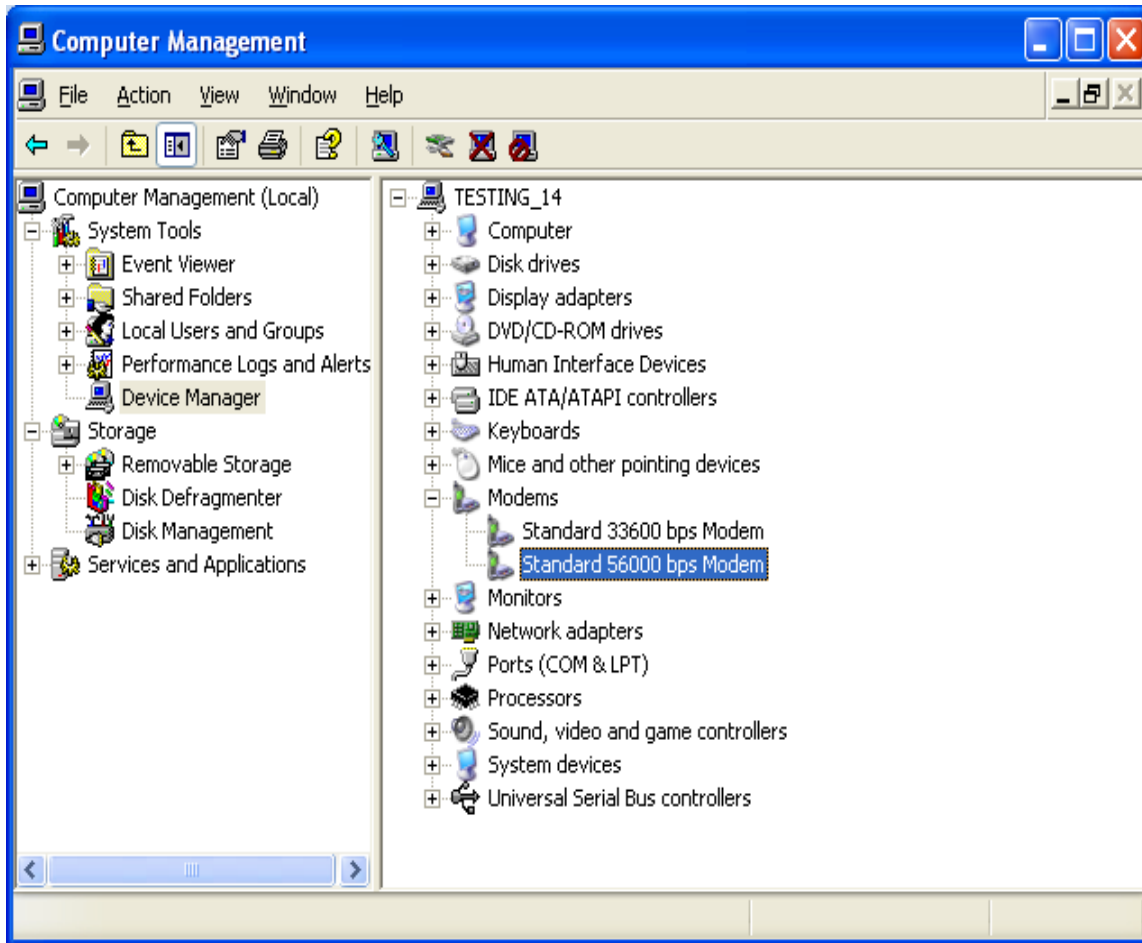

Figure 2: Opening modem properties from device Manager.
5. In Figure 2, right click on modem and select properties to open modem properties window.